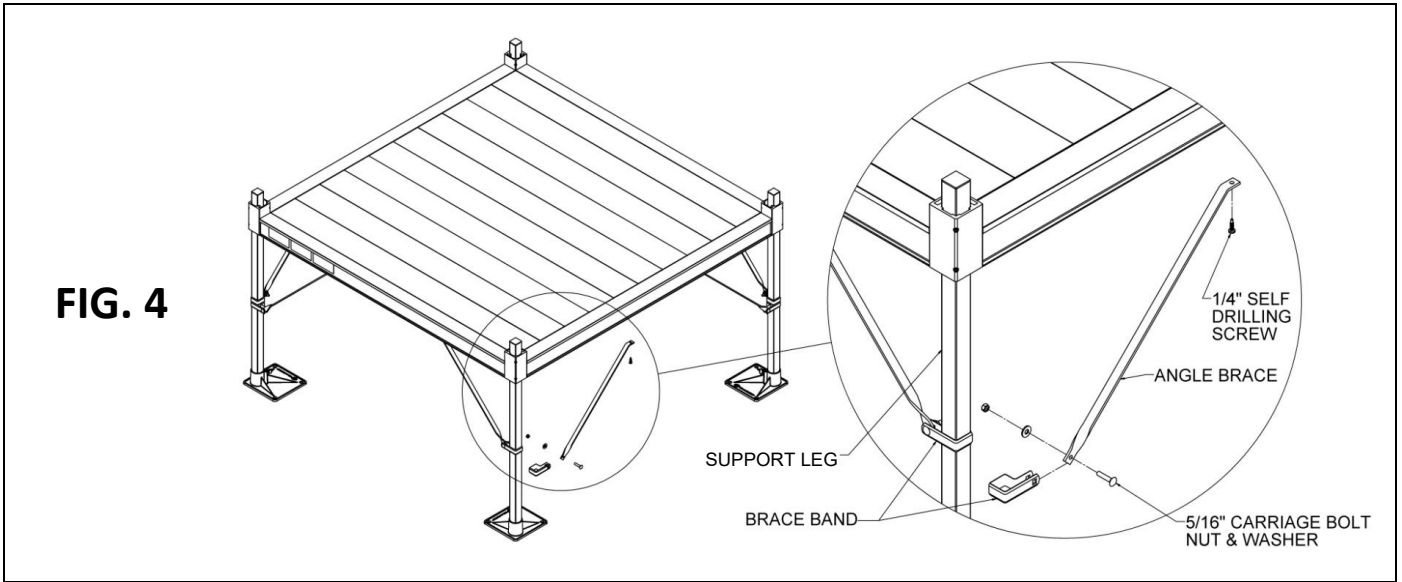

FIG. 4
2.3.2. Use two brace bands to secure the ends of the two braces nearest the twist to the support leg using a 5/16” bolt, flat washer, and nut (FIG. 4).
2.3.3. Opposite ends of the braces are attached to the bottom of the platform side rail at 90 degrees to each other using a 1/4” x 1” long self-drilling screw (FIG. 4).